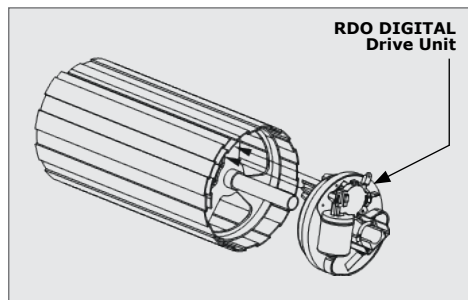

FIGURE 13
7. Orientate the Drive Unit as per Figure 13.